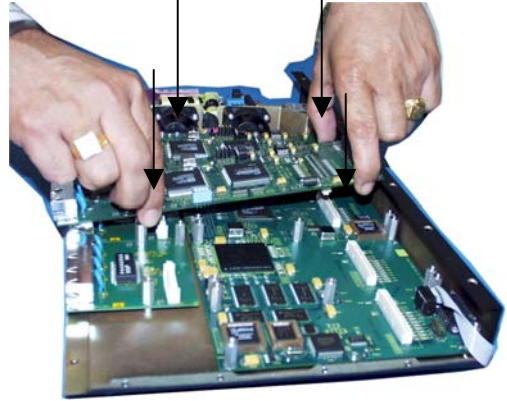

Fig. 3.5.2e Magnum 6KPM daughter board aligned with the bottom female connector for the installation
- Step 4.** Hold the daughter board with both hands at the end and align the two cream color latching connectors (male) placed at the bottom of the daughter board with the other female connector placed on the Granddaughter and main board. As shown below in Fig. 3.5.2e